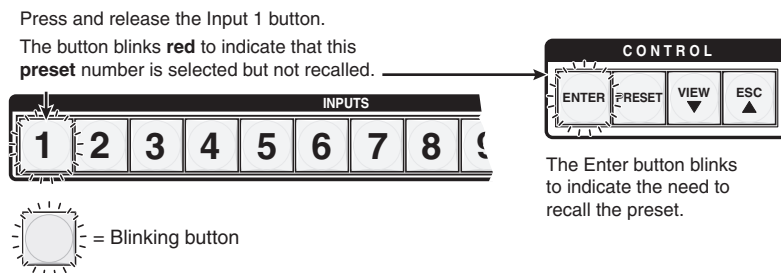

Figure 3-46 — Select the preset
3. Press and release the input or output button for the desired preset (figure 3-46).